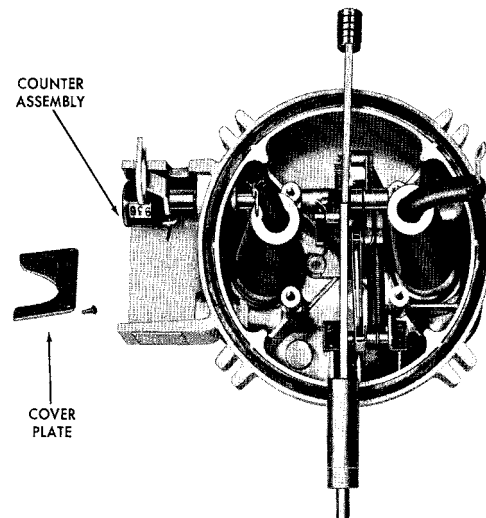

Figure 28. Removing cover plate.
- B. Remove cover plate by unscrewing two round-head self-tapping screws. See Figure 28.